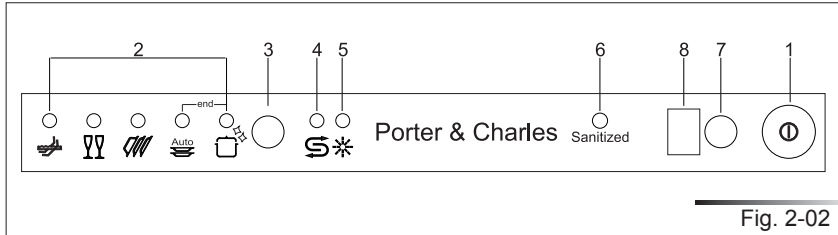

Fig. 2-02
The dishwasher is equipped with a control panel (see fig. 2-02) which is used to program the appliance and switch it on and off.
Press the on/off button (ref. 1 fig. 2-02) to start the dishwasher. Then wait for one of the **program indicator lights** to turn on (ref. 2 fig. 2-02).
- Press the **program selection button** (ref. 3 fig. 2-02) several times until the indicator light corresponding to the required program turns on (ref. 2 fig. 2-02);